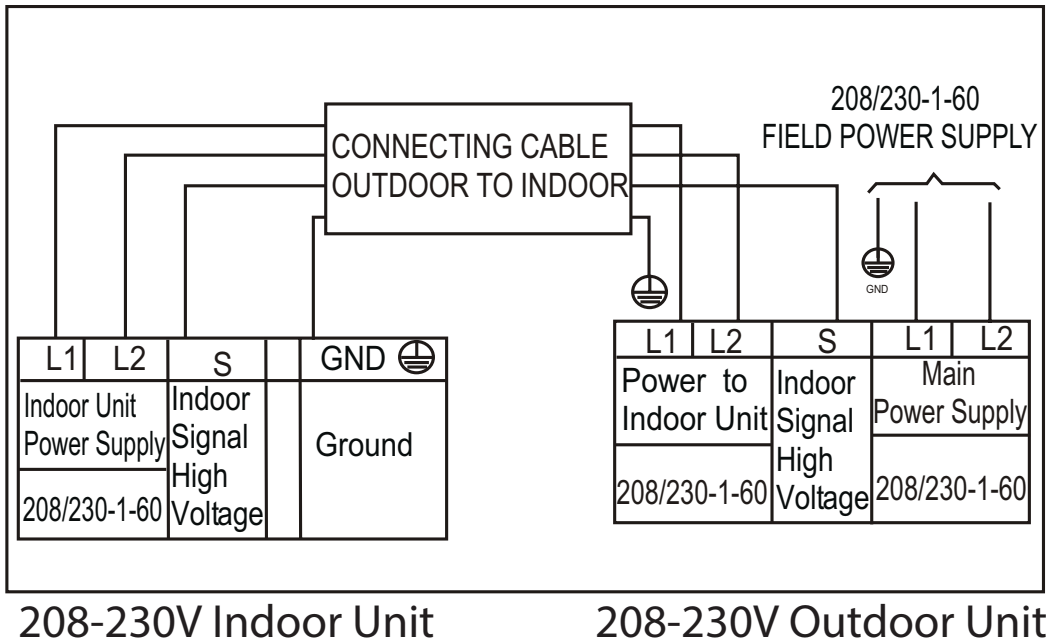
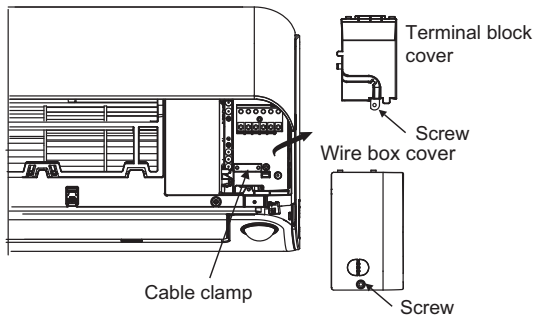

Fig. 15 —Connection Diagrams
Fig. 16 —Terminal Block Location
9. Connect wiring from outdoor unit per connection diagram (see Fig. 15 and Fig. 16).